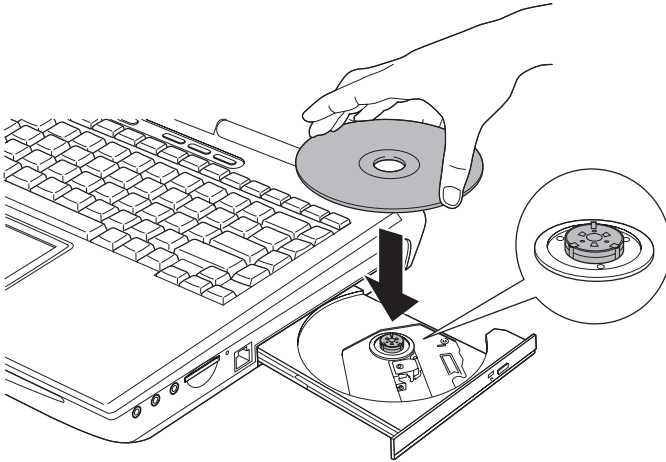

Figure 4-8 Inserting a CD/DVD
**NOTE:** When the drawer is fully opened, the edge of the computer will extend slightly over the CD/DVD tray. Therefore, you will need to turn the CD/DVD at an angle when you place it in the tray. After seating the CD/DVD, however, make sure it lies flat, as shown in figure 4-8.